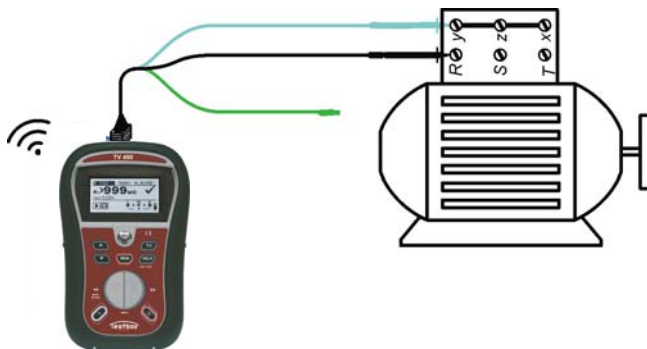

Figure 5.11: 3-wire test lead application
- ❑ **Connect** test leads to the tested object (see figure 5.11).